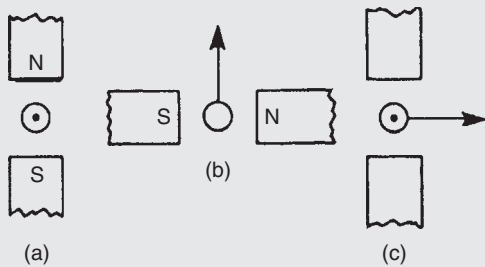
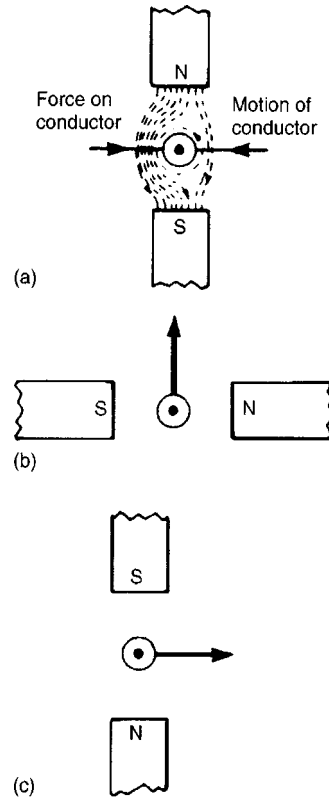

Figure 9.4
Figure 9.5
Problem 5. The diagrams shown in Fig. 9.4 represents the generation of e.m.f.'s. Determine (i) the direction in which the conductor has to be moved in Fig. 9.4(a), (ii) the direction of the induced e.m.f. in Fig. 9.4(b), (iii) the polarity of the magnetic system in Fig. 9.4(c).
- (i) Using Lenz's law: The field due to the magnet and the field due to the current-carrying conductor are shown in Fig. 9.5(a) and are seen to reinforce to the left of the conductor. Hence the force on the conductor is to the right. However Lenz's law states that the direction of the induced e.m.f. is always such as to oppose the effect producing it. **Thus the conductor will have to be moved to the left.**
i.e. **towards the viewer or out of the paper**, as shown in Fig. 9.5(b)
- (iii) The polarity of the magnetic system of Fig. 9.4(c) is shown in Fig. 9.5(c) and is obtained using Fleming's right-hand rule.